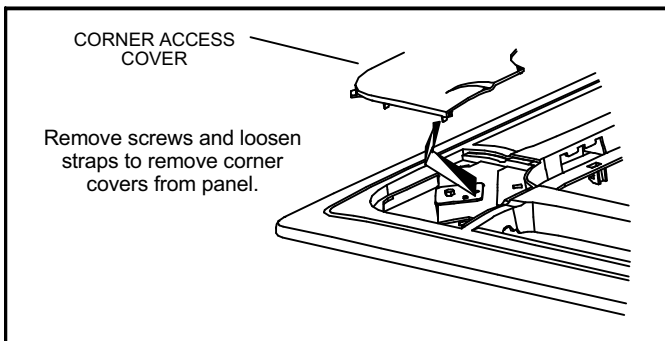

Figure 15. Remove Corner Covers
- 3 - Remove access covers from each corner of the panel. See figure 15.